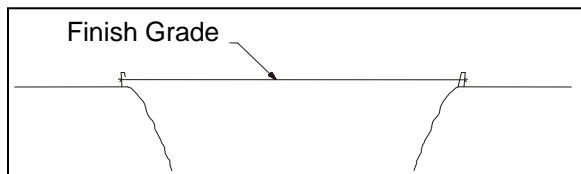

Figure 1
1. Mark off finish grade. (See Figure 1.)